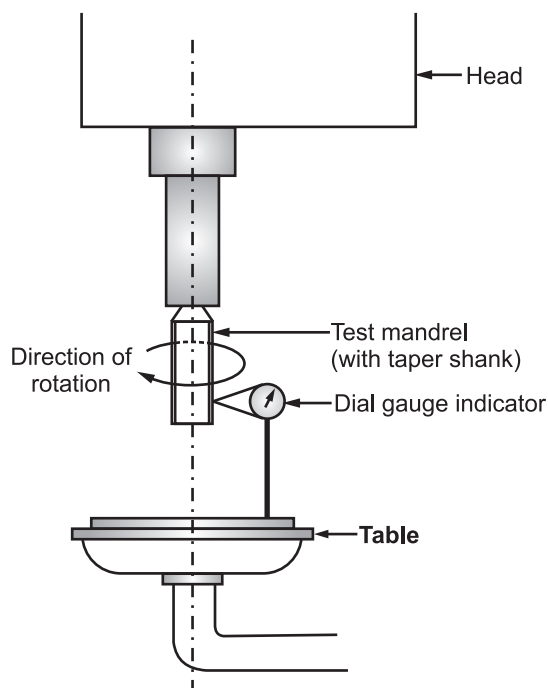

Fig. 8.32: True running of spindle taper
- Place a 'Test mandrel' properly with drill head as shown in Fig. 8.32.